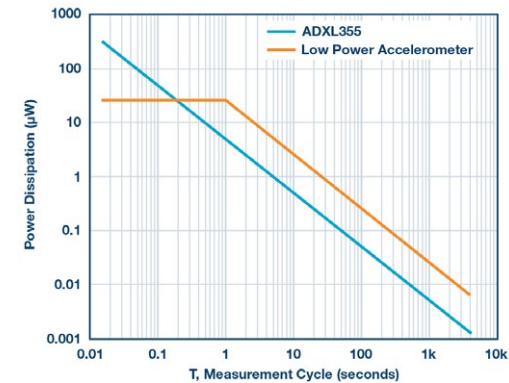

Figure 1. Power dissipation vs measurement cycle time
The graphical view of this relationship (Figure 1) offers a couple of interesting observations. First, at measurement cycle times (T) that are lower than 0.81 seconds, the “low-power” device will be supporting